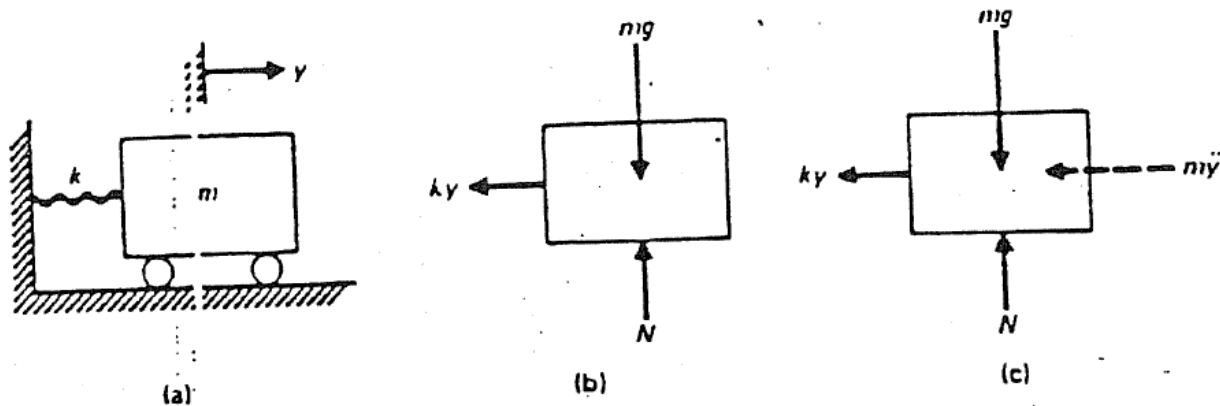

Fig. 1.6 Alternate free body diagrams: (a) Single degree-of-freedom system. (b) Showing only external forces. (c) Showing external and inertial forces.
- Figure 1.6 c shows the FBD with inclusion of inertial force $m\ddot{y}$. This force is equal to the mass into acceleration and should always be directed $-vely$ w.r.t the corresponding coordinate.